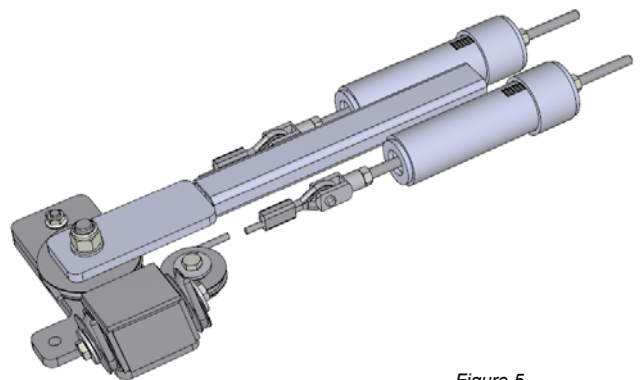

Figure 5
- rotary system tensioner (Figure 5)